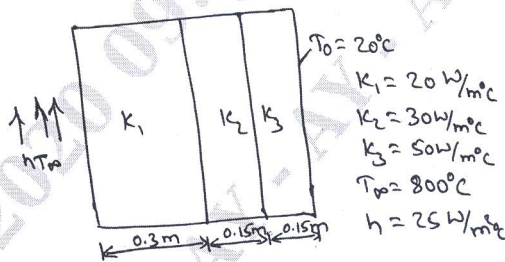

Fig Q9
- 9 Solve for temperature distribution in the composite wall as shown in Fig Q9. (16 Marks)